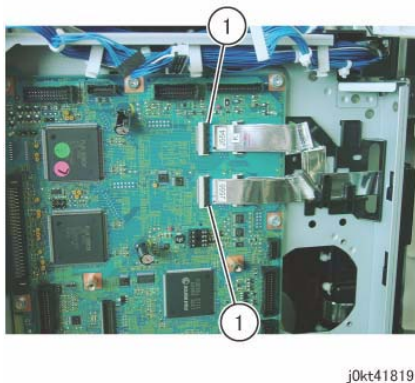

Figure 2 Disconnect the Flexible Print Cables
9. Disconnect the Flexible Print Cables (x2). (Figure 2)